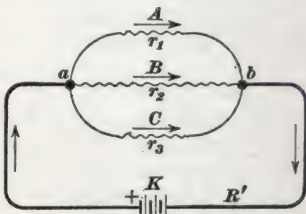

FIG. 53.
**EXAMPLE.**—Fig. 53 represents a closed circuit, part of which, from  $a$  to  $b$ , forms a derived, or shunt, circuit of three separate branches  $A$ ,  $B$ , and  $C$  in parallel;  $r_1$ ,  $r_2$ , and  $r_3$  represent the separate resistance of the branches, respectively, from  $a$  to  $b$ ; and  $R'$  represents the resistance of the rest of the closed circuit from  $b$  to  $a$  in the direction in which the current is supposed to be flowing, including the internal resistance of the battery  $K$ . Let  $r_1 = 2$  ohms;  $r_2 = 3.2$  ohms;  $r_3 = 4.4$  ohms; and  $R' = .8$  ohm.